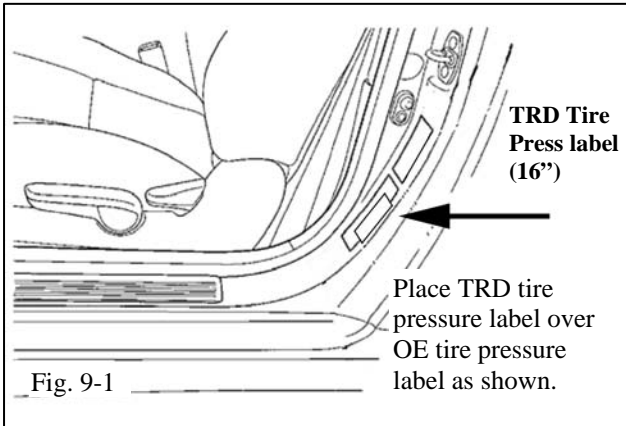

Fig. 9-1
- (b) Affix the TRD 16 inch tire pressure label TACOMA (MDC # **00602-35015**) FJ-CRUISER (MDC # **00602-35016**) directly over the OE tire pressure label. NOTE: Do NOT cover any cargo or passenger capacity text.(Fig. 9-1)